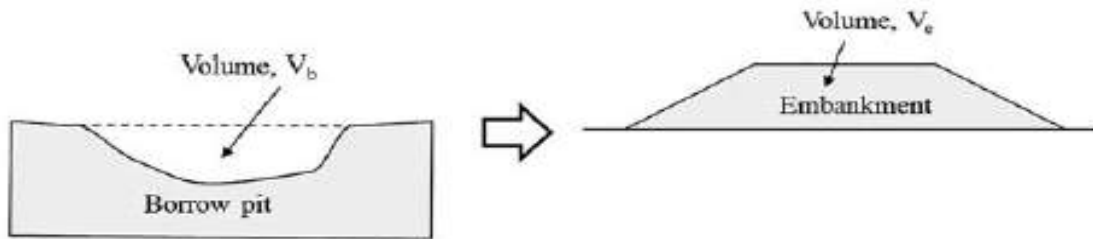

Figure 3.3 Borrow pit and embankment for Problem 3.3.
**Problem 3.3** Soil excavated from a borrow pit is being used to construct an embankment (Fig. 3.3). The soil sample from the borrow pit has a specific gravity of 2.7 and unit weight of  $17.8 \text{ kN m}^{-3}$ . The weight of the sample was 3.5 N. The sample was then placed in an oven for 24 h at  $105^\circ\text{C}$  and its weight reduced to a constant value of 2.9 N.